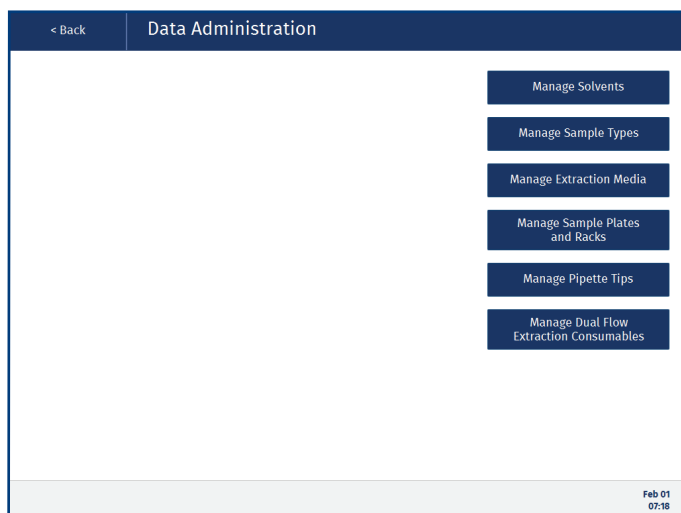
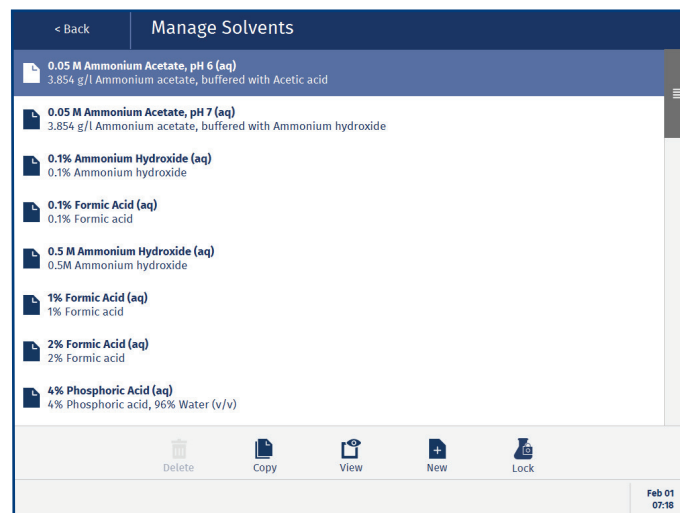
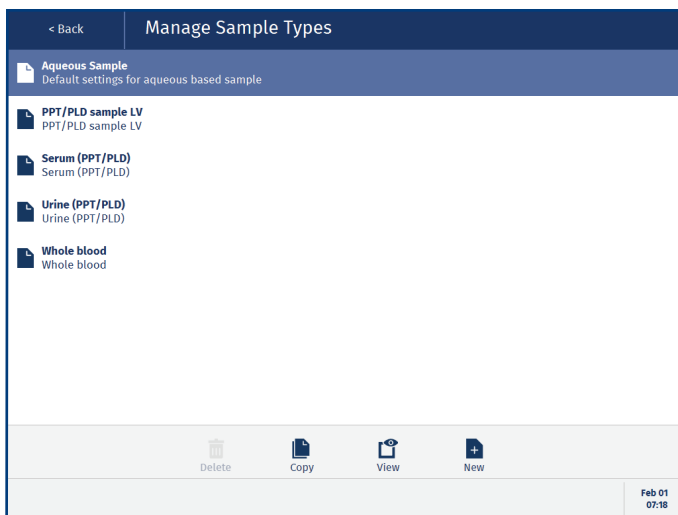

Figure 9. The Data Administration view.
Figure 10. The Manage Solvents view.
Figure 14. The Manage Sample Types view.
Note: The robot is a precision instrument, i.e. it is important that you enter the correct values when setting up solvents, sample types, plates, racks, and tips in the **Data Administration** view (see Figure 9).
To add, copy, edit, view, and delete solvents, and lock a solvent to a specific solvent reservoir, press **Data Administration** in the main menu and then **Manage Solvents** (see Figure 9). The **Manage Solvents** view opens; see Figure 10.
1. Press **Lock** in the **Manage Solvents** view (see Figure 10).
To add, copy, edit, view, and delete sample types, press **Data Administration** in the main menu and then **Manage Sample Types** (see Figure 9 on page 6). The **Manage Sample Types** view opens; see Figure 14. The sample type settings are important if you work with a wide variety of different sample matrices whose liquid handling properties can vary.
To add, copy, edit, view, and delete extraction plates and column racks, press **Data Administration** in the main menu and then **Manage Extraction Media** (see Figure 9 on page 6).
To add, copy, edit, view, and delete sample plates, press **Data Administration** in the main menu and then **Manage Sample Plates and Racks** (see Figure 9 on page 6).